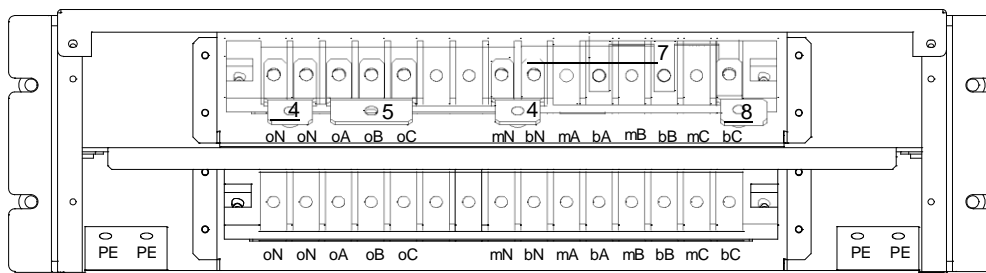

Figure 2-12 Shorted copper bars connection for single POD user terminal block
1. Short bA, bB and bC terminals of the single POD user terminal block using the shorted copper bar 7, short oA, oB and oC terminals using the shorted copper bar 5, and then short mN and bN terminals, two oN terminals respectively using two shorted copper bars 4, as shown in Figure 2-12.
3. Connect the shorted copper bar 8 to one end of the shorted copper bar 7 (see Figure 2-12), and connect the live line (bypass phase A) to the shorted copper bar 8.